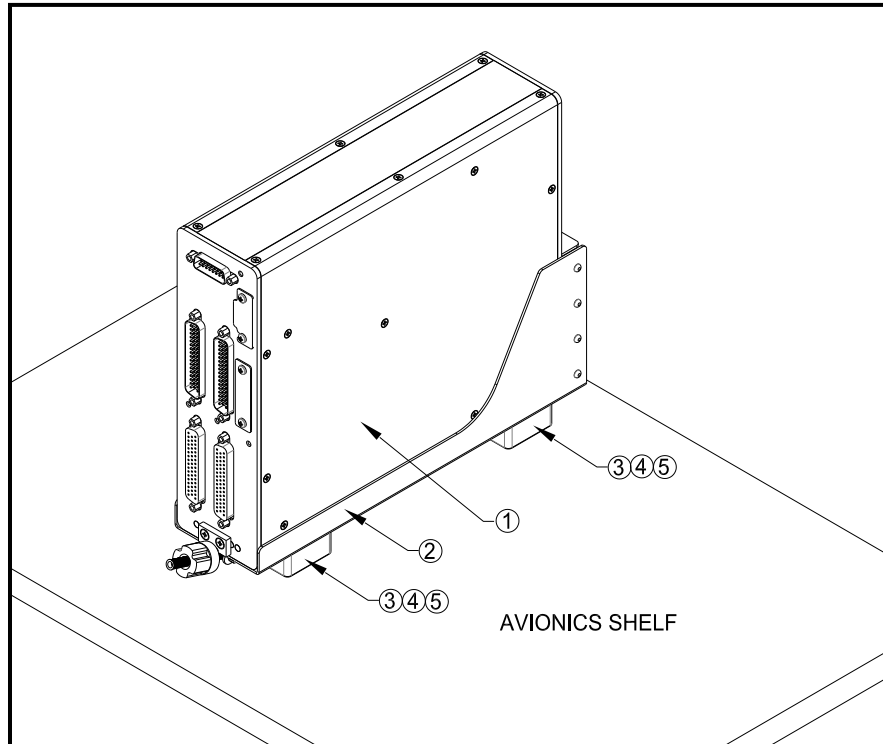

Figure 6: BK117 (EC145) Digital Router Avionics Shelf Installation
- c. Loosen the thumb screw securing the router into the tray and slide the router out of the tray shown in Figure 6.
- d. Remove the (4) MS24693S276 Screws and (2) Shims connecting the Tray to the avionics bay shelf as shown in Figure 6.
Parts List for Figure 6: For Router G13000 Installation
Parts List for Figure 6: For Router G13160 Installation
This installation provides mounting provisions for the Digital Audio Router in the Aft avionics bay shelf area for the BK117 (EC145) as shown in Figure 6. The location is shown for reference only. The exact placement of the Router is dependent on the other pre-existing installed equipment. Orientation of the tray is at the installer's discretion. Maintain 2 e/d edge margin for all mounting holes.